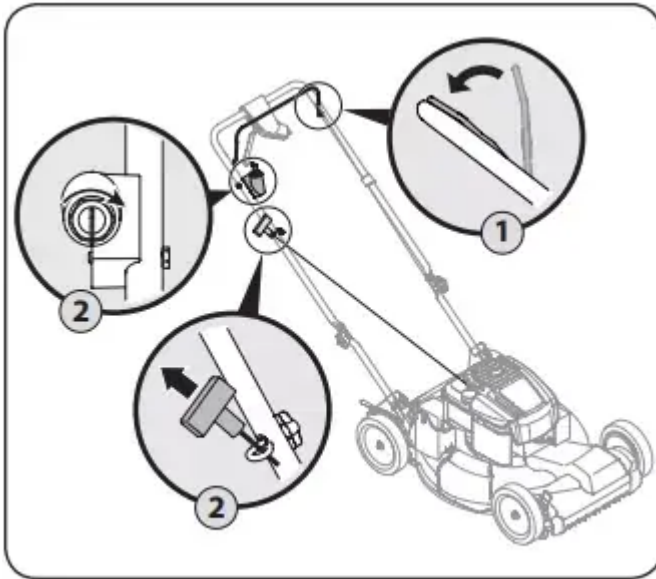

Figure 5-1
1. Standing behind the mower, squeeze the blade control against upper handle. See Fig. 5-1.
2. Recoil Start: Holding these two handles together firmly, grasp recoil starter handle and pull rope out with a rapid, continuous, full arm stroke. See Figure 5-1. Keeping a firm grip on the starter handle, let the rope rewind slowly. Repeat until engine cranks. Let the rope rewind each time slowly. Electric Start (If Equipped): Turn ignition key to the right to start the engine. Release the key after the engine starts.